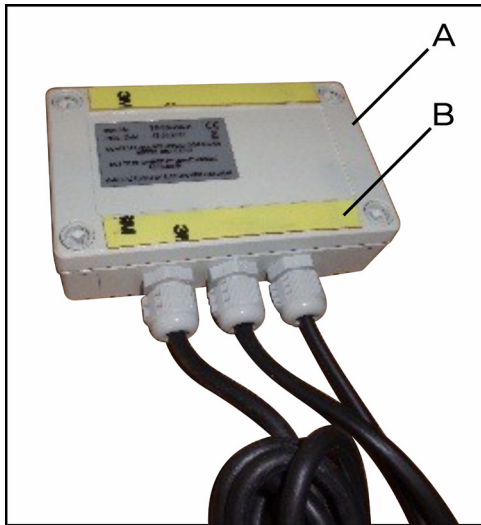
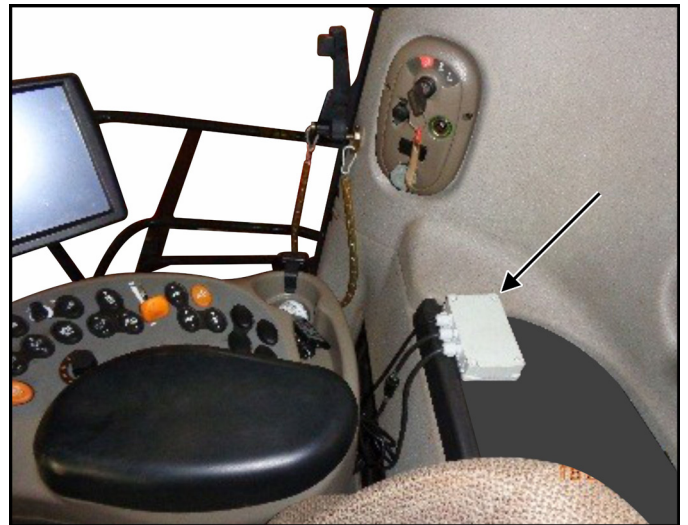

fig. 33
fig. 34
The control box (A) (*fig. 33*) has a double-sided tape (B) for its attachment. We recommend it be placed inside the combine cabin, so that it be well fixed and protected, according to *fig. 34*.